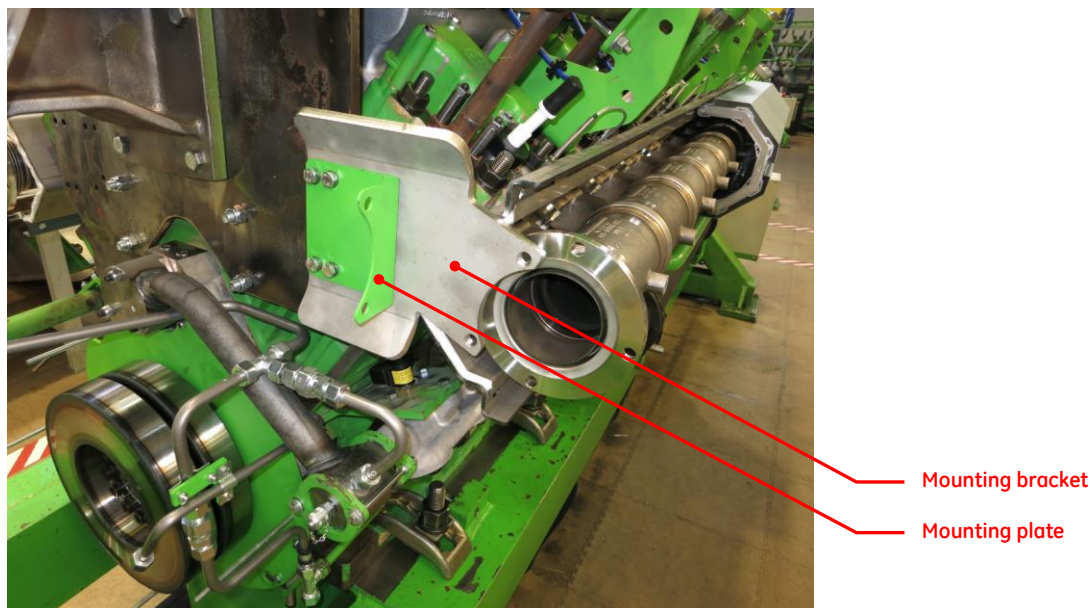

Figure 4: Fitting the mounting bracket (cylinder bank A)
- ✓ Fit the mounting bracket and plate in place as shown in Figure 4